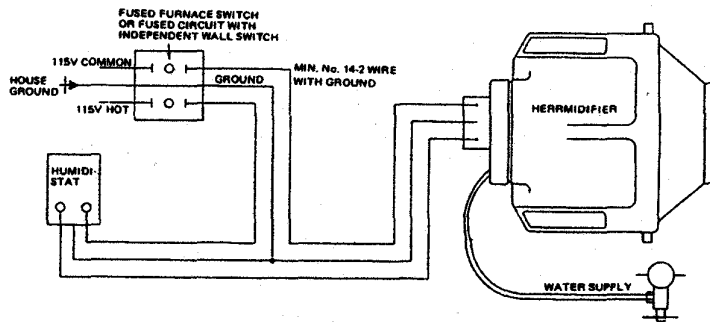

FIGURE 2 - WATER & ELECTRICAL CONNECTIONS
7. Use wiring approved for 115 Volt (FIG. 2) or 24 Volt (FIG. 3) as applicable. The humidifier and humidistat must be wired through the furnace blower such that the humidifier will not operate without airflow.